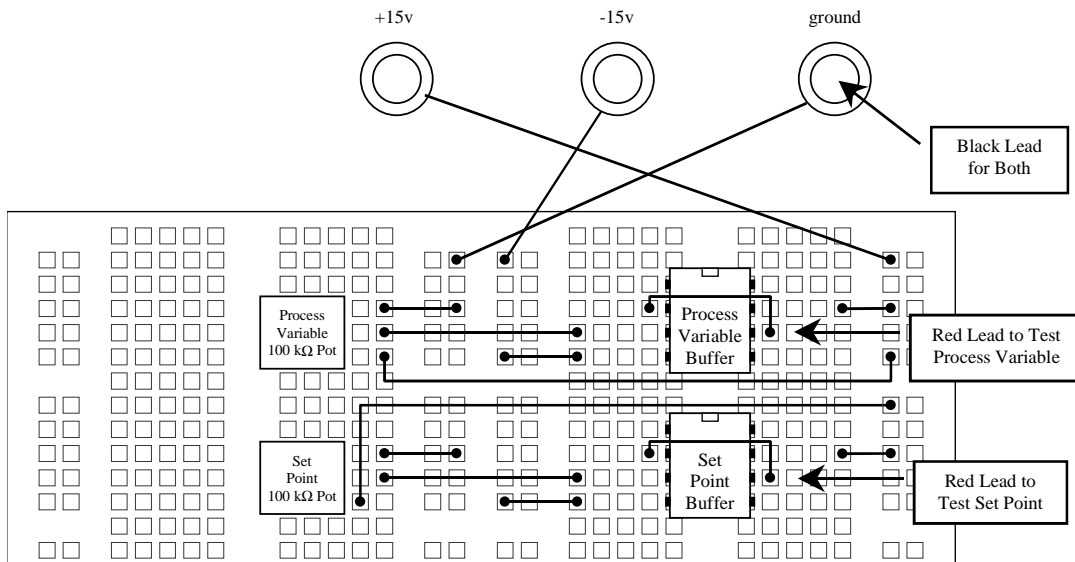

Figure 16c: Positions for testing set point and process variable
- Let's now do a quick test to insure things are functioning properly. After powering up the breadboard, set your multi-meter to DC voltage and place the black lead to ground and the red lead to the output connectors of each of the first two op amps (see Fig. 16c). As the adjustment knob on each pot is turned counterclockwise, the voltage should go to zero. As the adjustment knob is turned clockwise, the voltage should go to +15 volts. If the voltage changes in the opposite direction, switch the two outside leads. If your voltage isn't changing correctly, try changing the op amps and pots one at a time.